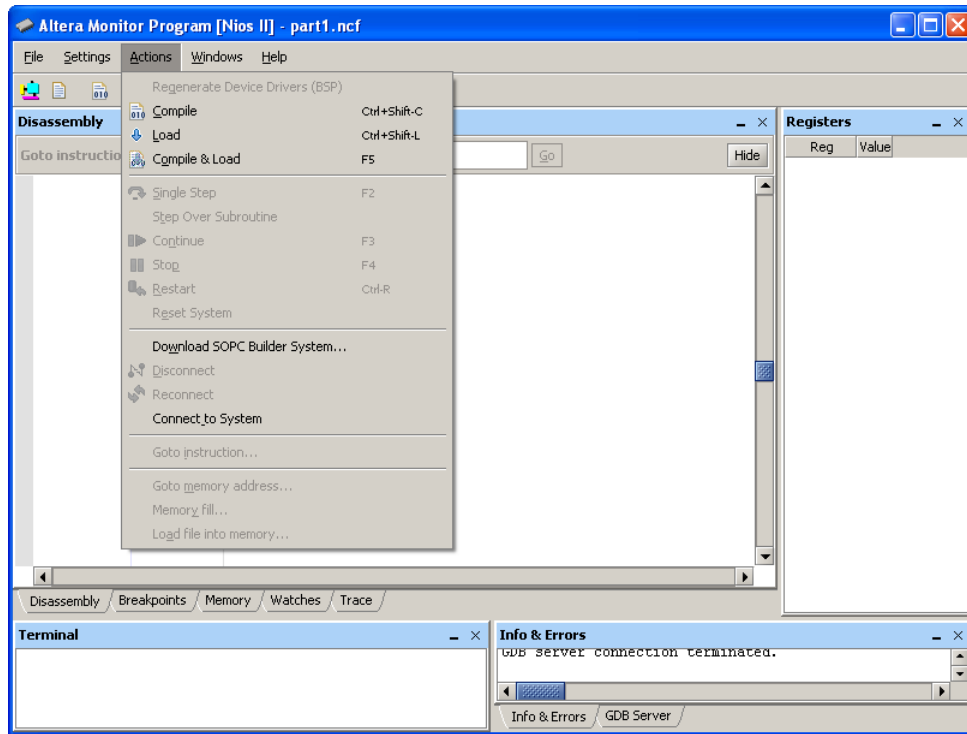
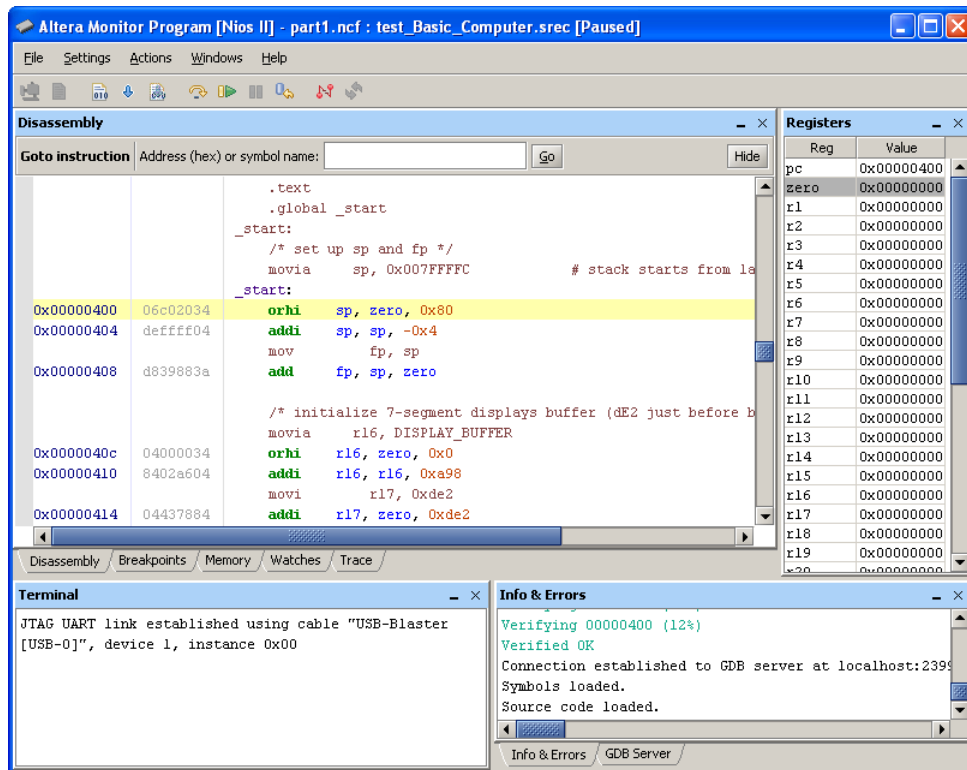

Figure 8: Specify an action in the monitor window.
Figure 9: The monitor window showing the loaded sample program.
9. Having downloaded the DE-series Basic Computer into the FPGA chip on the DE-series board, we can now load and run programs on this computer. In the main monitor window, shown in Figure 8, select **Actions > Compile & Load** to load the selected sample program into the FPGA chip. Figure 9 shows the monitor window after the sample program has been loaded.